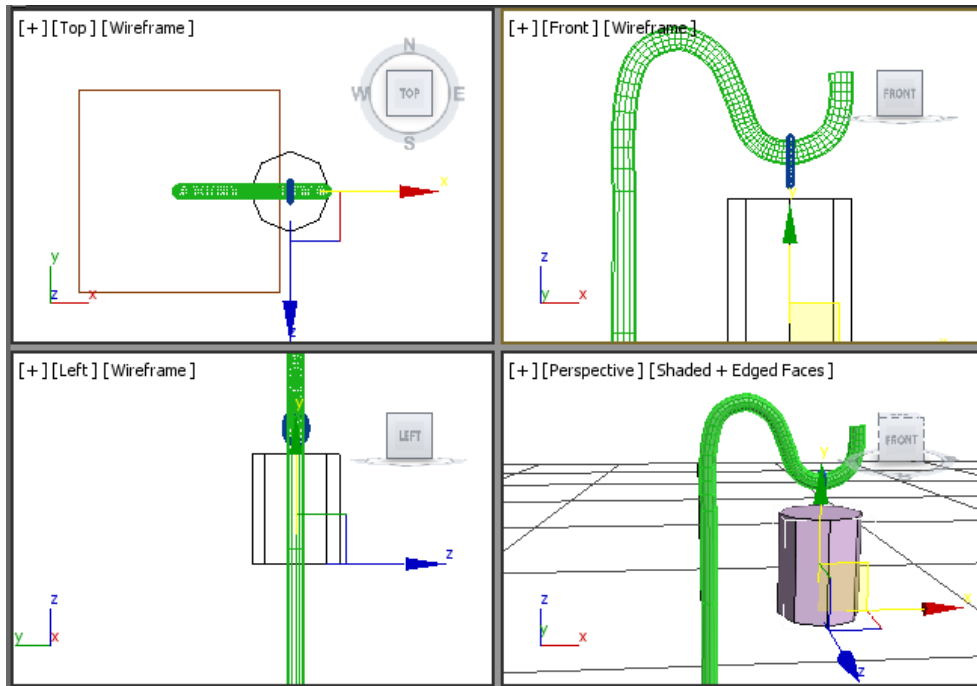

Figure 5-30 The lamp holder aligned in all viewports
- Set the value **1.2** in the **Amount** spinner of the **Parameters** rollout; *lamp holder* is extruded. Next, align it in all viewports, as shown in Figure 5-30.